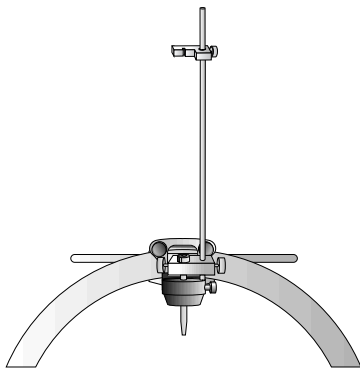

Figure 2. Attach lead holder assembly to frame.
7. Attach the lead holder assembly to the stereotactic frame, positioning the guide tube or collimator so that its distal end is 1.25 to 2.5 cm from the skull (Figure 2).